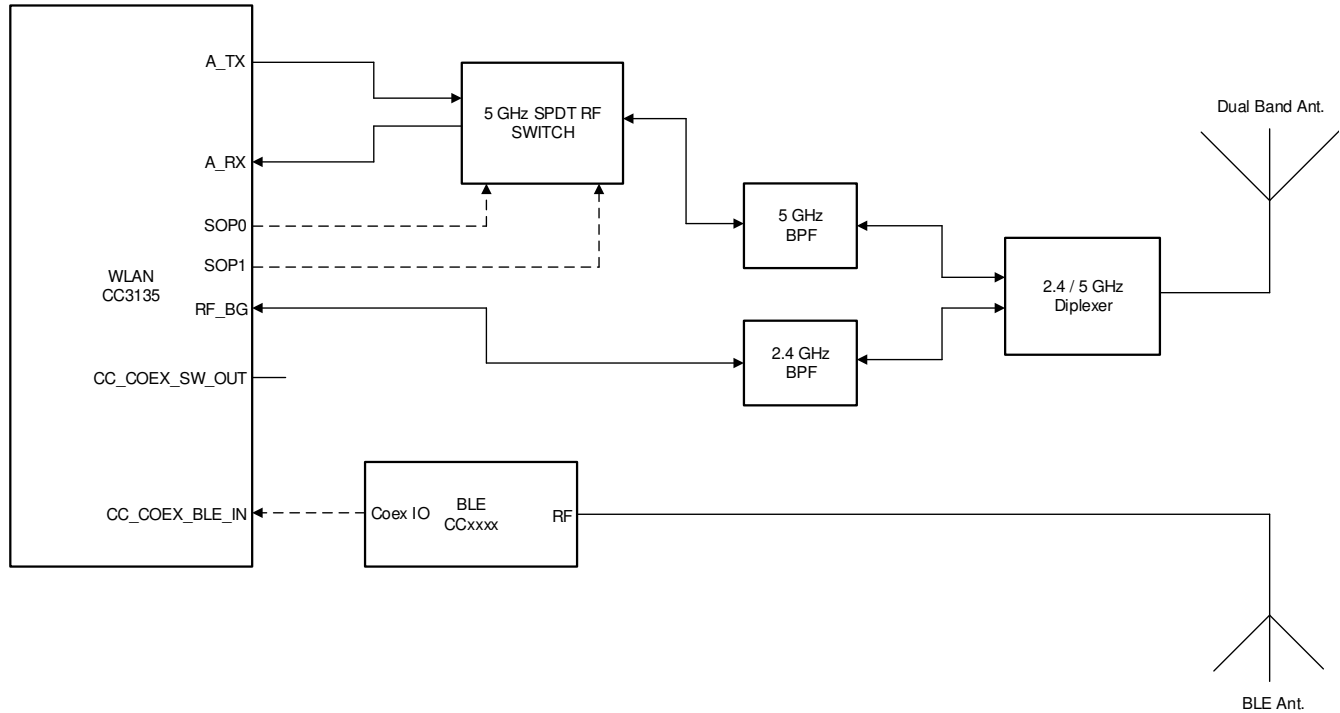

Figure 10-4. Dual Antenna Coexistence Solution with 5 GHz Wi-Fi®
- 5 GHz Wi-Fi band (see 图 10-4)
Figure 10-4 shows the dual antenna implementation of a complete Bluetooth® low energy and WLAN coexistence network with the WLAN operating on either a 2.4- or a 5 GHz band. In this case, the 2.4 GHz and 5 GHz Wi-Fi share an antenna and the BLE has its own dedicated antenna. The SOP lines control the 5 GHz switch. Note in this implementation no Coex switch is required and only a single GPIO from the BLE device to the CC3135 device is required.